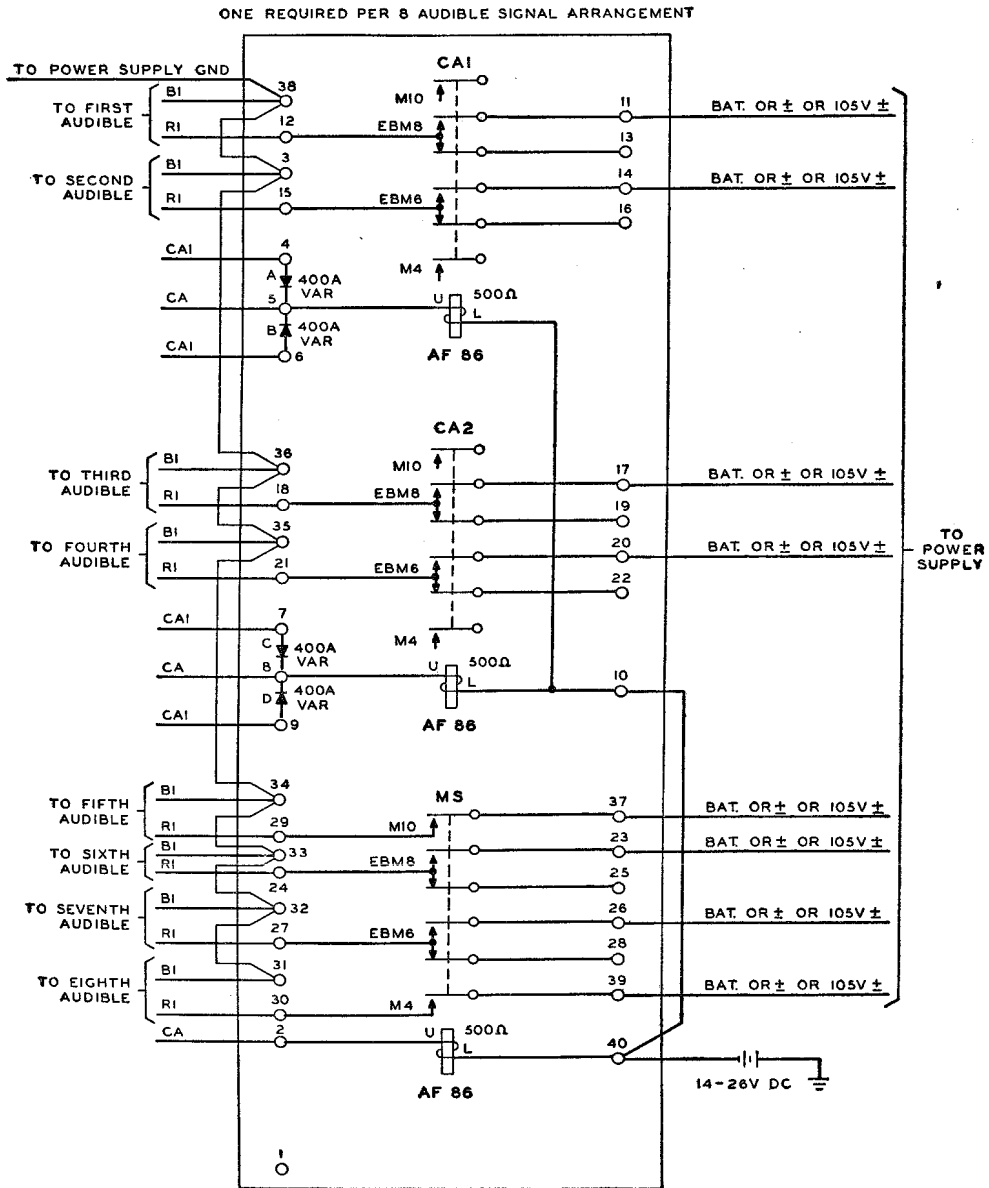

Fig. 4 - 227A KTU - Multisignal Control Circuit for Buzzers, Bells, or Ringers
2.03 Fig. 4 provides a flexible arrangement for using the same audible signal as a line signal and common signal. A common audible signal may be associated with one or more groups of line or signal circuits. One line or signal circuit may operate one or more audible signals. It may also be used to operate two or more signals which require different operating voltages.